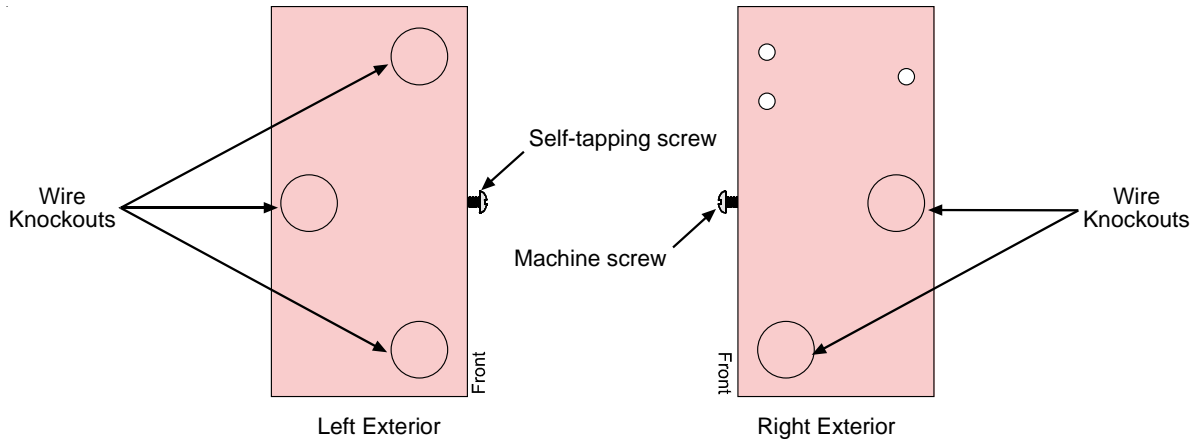

Figure 2: Wire Knockout Locations
1) Remove the desired wire knockouts on the enclosure. See Figure 2.